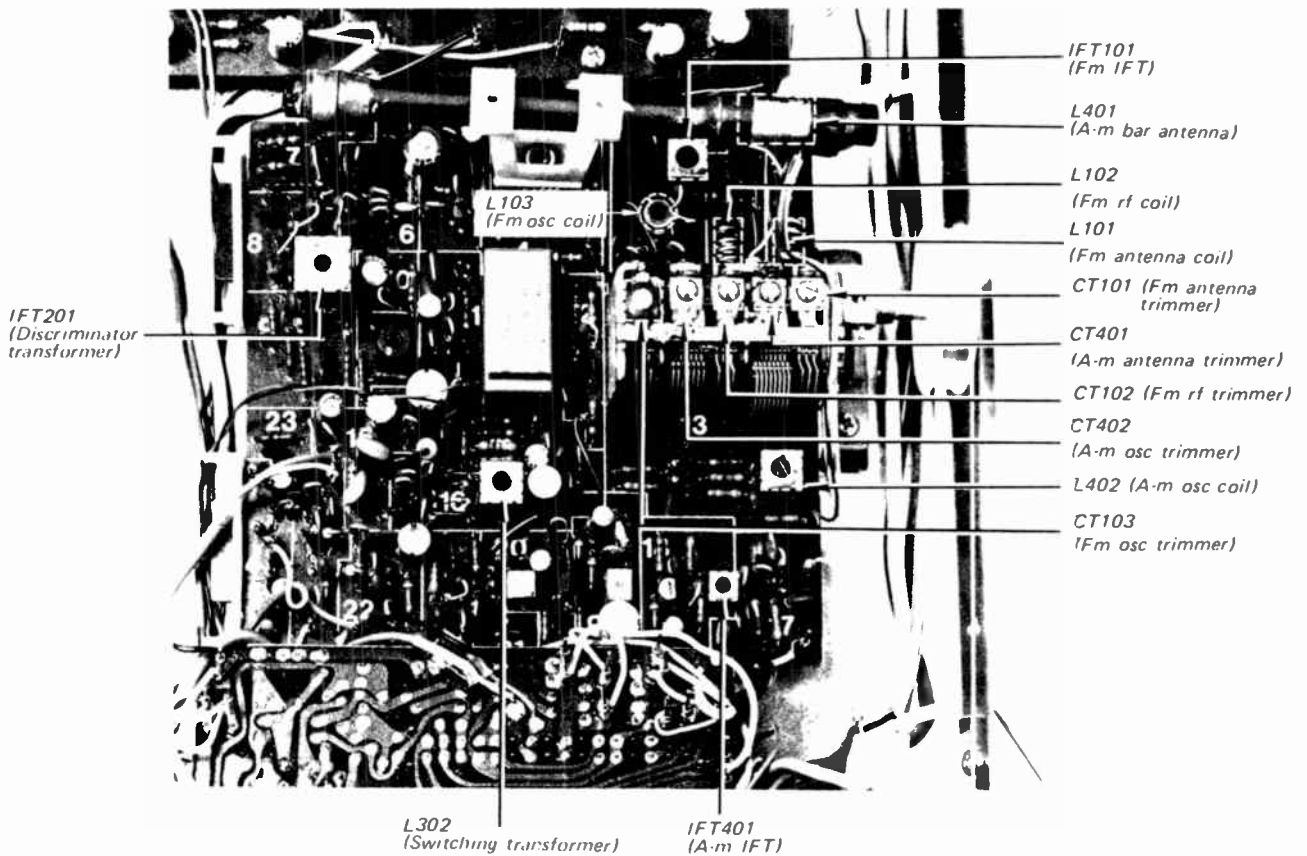

Fig. 3-11. Adjusting parts location
5. Adjust i-f transformer IFT101 (see Fig. 3-11) and primary side of discriminator transformer (IFT201 bottom core) to obtain a maximum-amplitude "S" curve response.
7. Turn the core of fm IFT101 (see Fig. 3-11), to obtain the maximum output.
2. Check the dial scale for a calibration accuracy of  $\pm 300$  kHz from the carrier frequency of the station. If the dial-accuracy deviation exceeds this limit, turn the local-oscillator coil L103 (shown in Fig. 3-11) slightly until optimum dial calibration is obtained.
3. Tune the receiver to the highest-frequency station in your locality. If the dial-calibration error is excessive, adjust local-oscillator trimmer CT103 to obtain maximum calibration accuracy. See Fig. 3-11.